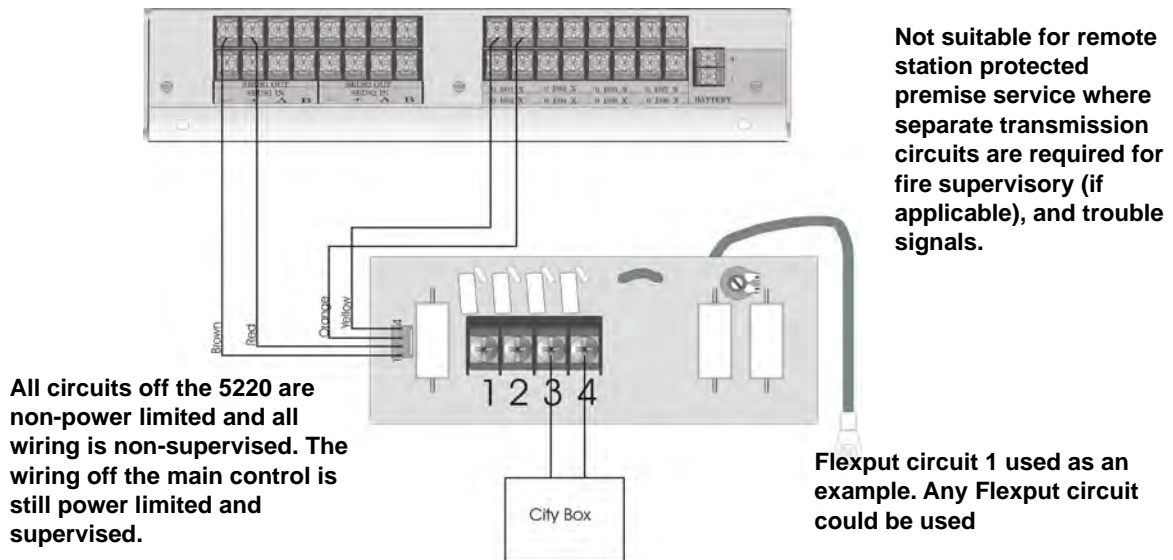

Figure 4.47 City Box Connection
2. Wire the 5220 to the control panel as shown in Figure 4.47. This drawing also shows how to connect the city box coil to terminals 3 and 4 on the 5220. Do not install an EOL resistor in the terminals of the Flexput circuit used for this application.